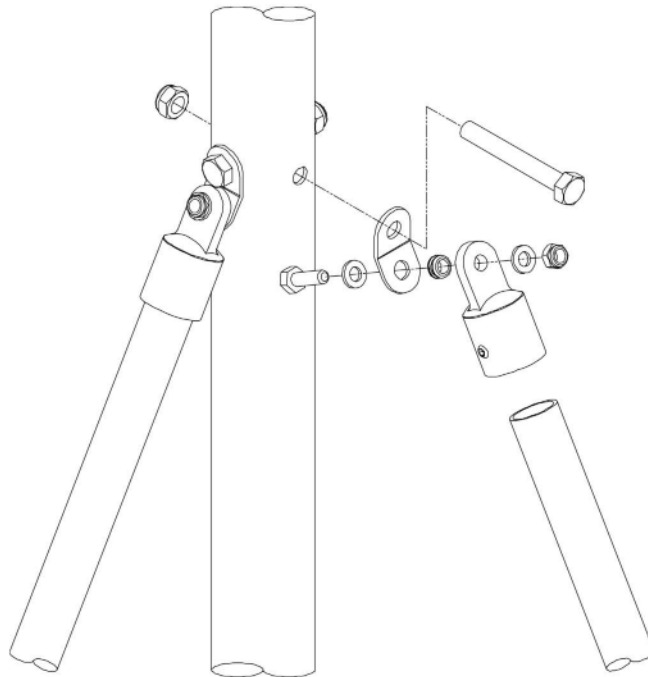

Figure 6
- Tighten the M6 nyloc nuts on the guy brackets using 10mm spanners.(see Fig.6)